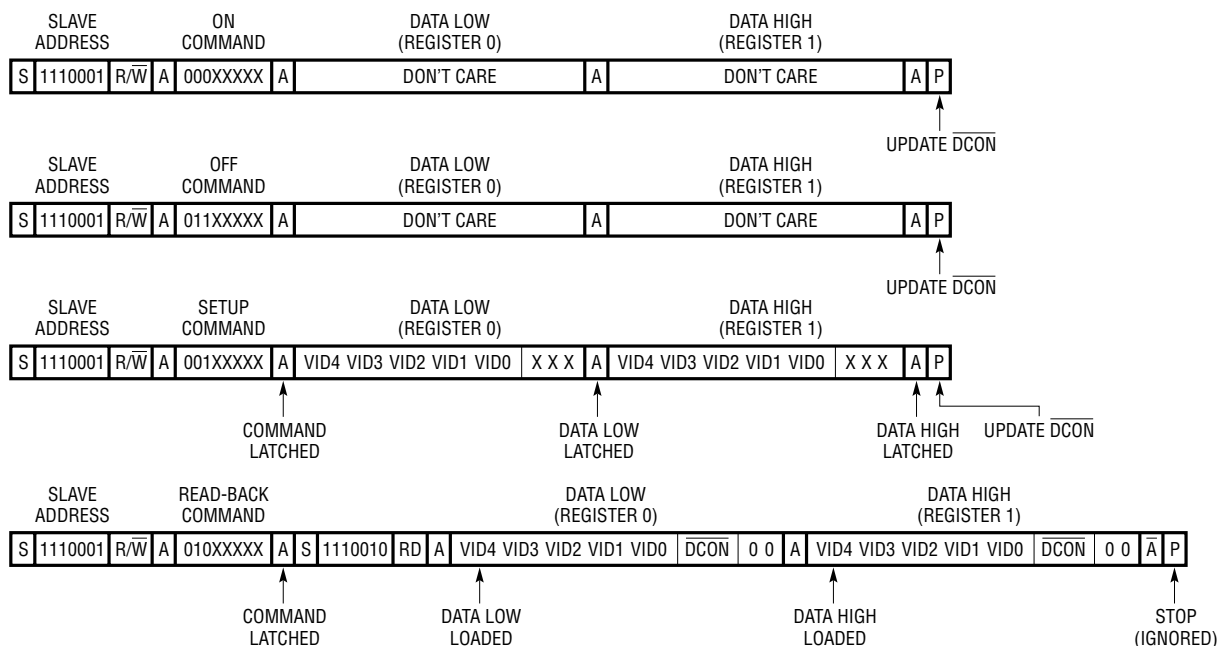

Figure 2. Write Word and Read Word Protocols
The TTL compatible VRON input pin and the output of the internal on/off state machine (SMBON) control the state of the CPU_ON, IO_ON, CLK_ON and PGOOD pins. SMBON is accessed using SMBus protocols and must be programmed to a high state before the converters can turn on. The SMBus protocols (see Figure 2) incorporate safeguards against errors caused by bus conflicts.
The Write Word and Read Word protocols (Figure 2) share three common features. First, the 7-bit slave address for both protocols is internally hardwired to 1110 001B = E2H. A single R/W bit follows the slave address. This bit is low for data transfer from the microprocessor to the LTC1699-80, LTC1699-81 or LTC1699-82 and high for transfers in the opposite direction.
Each Write Word protocol (Figure 2) begins with a start bit (S) and ends with a stop bit (P). As shown in the Timing Diagram the start and stop bits are defined as high to low and low to high transitions respectively, while SCL is high. In between the start and stop bits, the microprocessor transmits four bytes to the LTC1699-80, LTC1699-81 or LTC1699-82. These are the address byte, an 8-bit command code and two data bytes. The LTC1699-80, LTC1699-81 and LTC1699-82 sample each bit at the rising edges of the SCL clock.